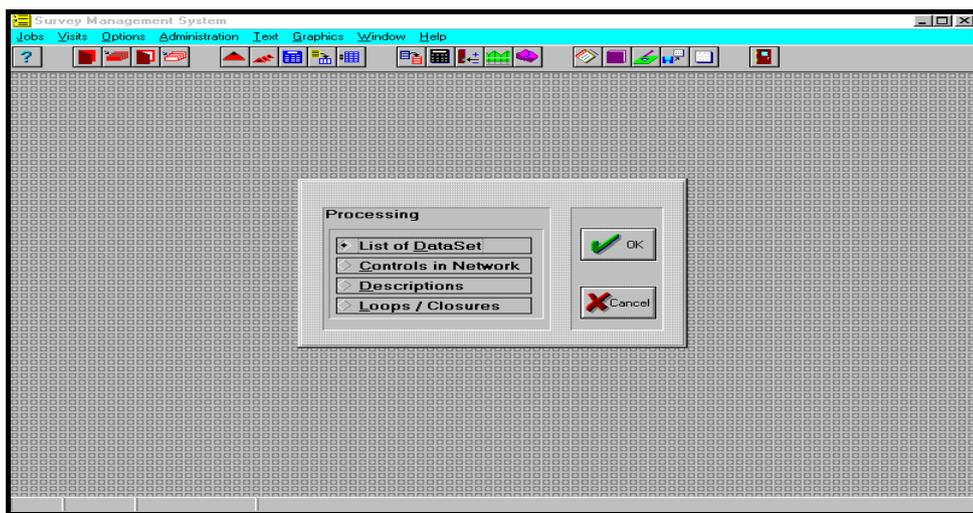

Fig 4.3
- Note the options under processing in the new window (Fig 4.3).